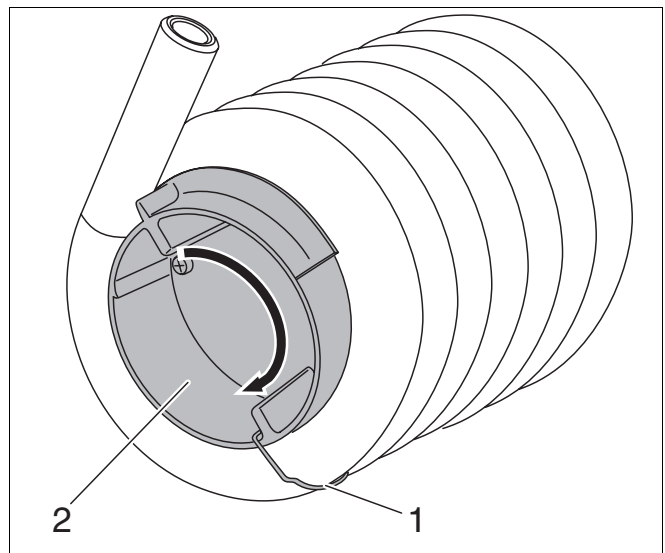

Fig. 45 Removing the restrictor baffle
- Remove the restrictor baffle (fig. 45, item 2) on the underside of the heat exchanger by withdrawing the securing pin (fig. 45, item 1) and unscrewing the restrictor baffle.